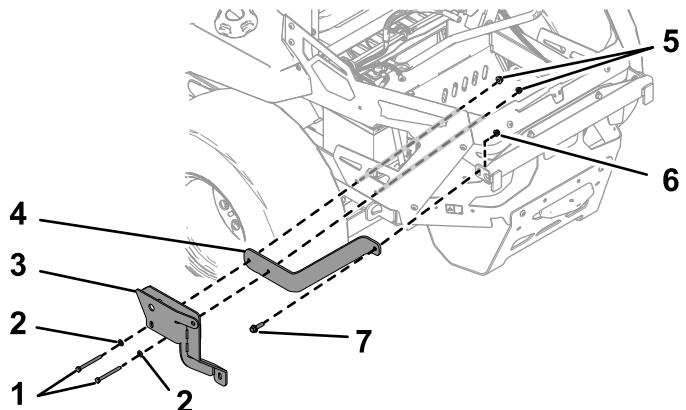

Figure 13
- Secure the pivot mount and left upper bracket to the left, rear guard and bagger support using 2 hex-head bolts (5/16 x 3-1/4 inches), 2 washers, 2 locknuts (5/16 inch), 1 hex-head bolt (3/8 x 1-1/4 inches), and 1 locknut (3/8 inch) as shown in Figure 13.
- Secure the right upper bracket to the right, rear guard and bagger support using 2 hex-head bolts (5/16 x 3-1/4 inches), 2 washers, 2 locknuts (5/16 inch), 1 hex-head bolt (3/8 x 1-1/4 inches), and 1 locknut (3/8 inch) as shown in Figure 13.